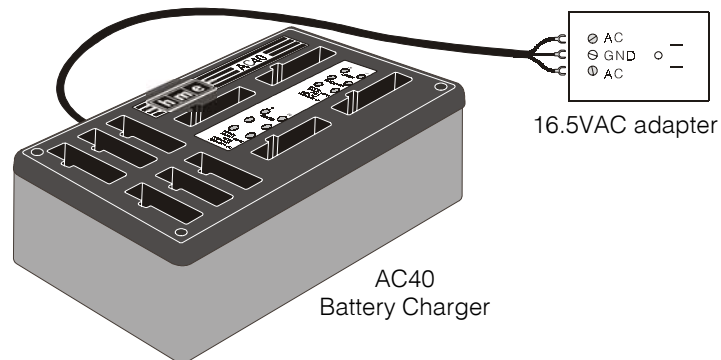
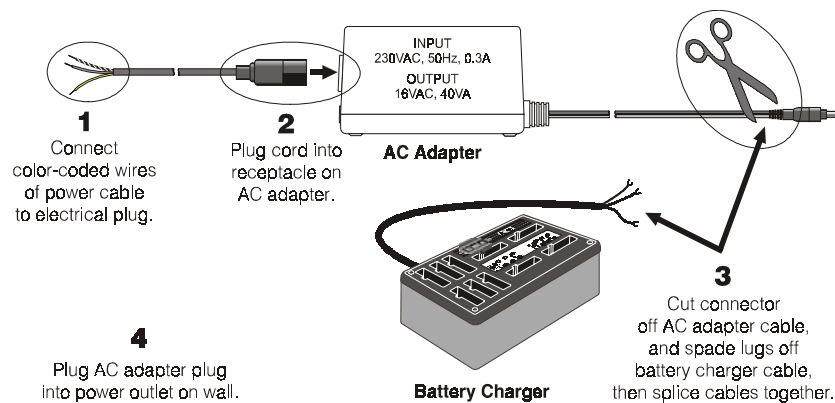

Figure 7.
Figure 8. 230VAC adapter wiring for battery charger
Connect the battery charger cable to the 16.5VAC adapter as shown in Figure 7.
- Connect the base station power adapter cable to the base station's 16.5VAC adapter as you did for the battery charger, as shown in Figure 7, page 7. For use outside the United States, see 230VAC adapter connections shown in Figure 8, page 7.